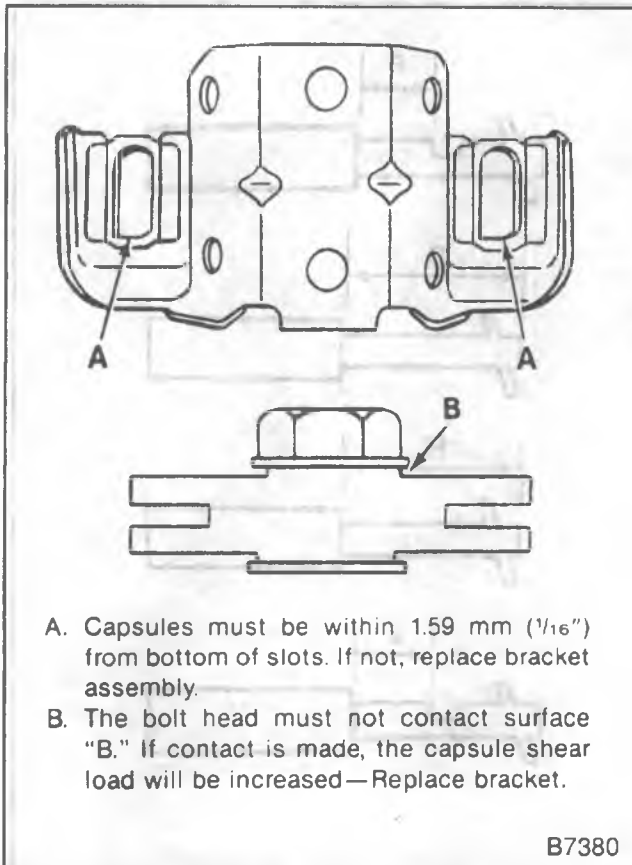

Figure 1—Steering Column Collapse Inspection
Inspect (Figures 1 through 3)
1. Capsules on the steering column bracket assembly. The capsules must be within 1.59 mm (1 1/16 inch) from the bottom of the slots (figure 1). If not, the bracket should be replaced.
2. Contact surface (figure 1). The bolthead must not contact surface "B" or the shear load will be increased. If contact is made, replace the bracket.